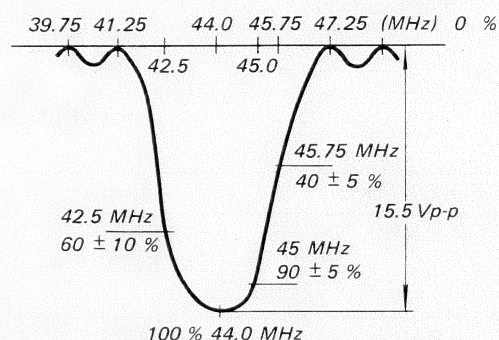

Fig. 3-5
10. Adjust the output of sweep generator so that the 44 MHz marker on the VIF response curve indicates 15.5 Vp-p on the scope as shown in Fig. 3-5.
11. Make the adjustments specified in TABLE 3-2 to produce the VIF response curve as shown in Fig. 3-5.